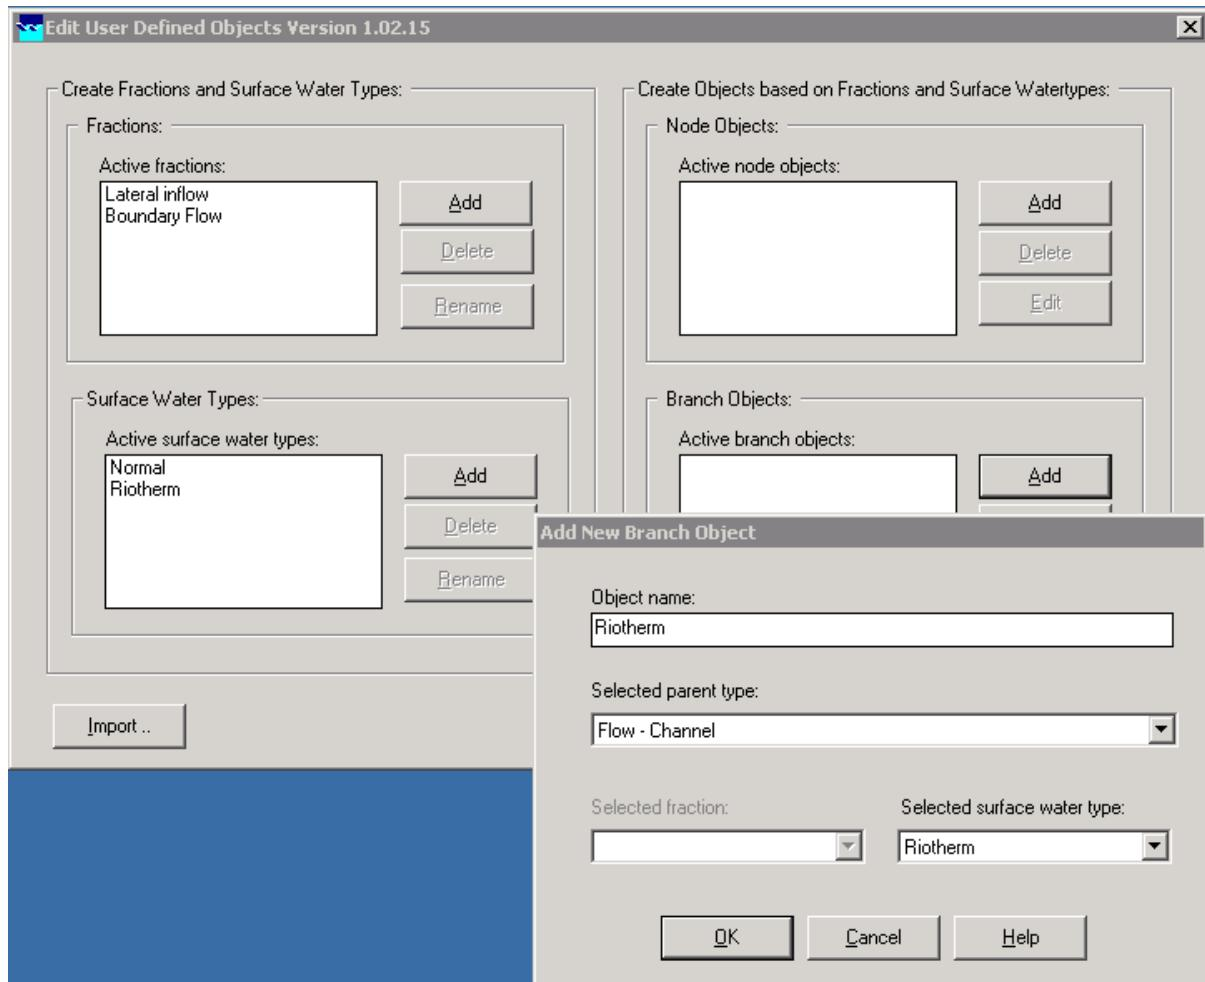

Figure 4. Setup of surface water type and pipe.
4. At the “*Branch Objects*” area, add an “*Active branch objects*”. At the example provided, it is called Riotherm again (Figure 4).
5. At the option “*Selected parent type*”, Select Flow – Channel and Riotherm as “*Selected surface water type*” (Figure 4).